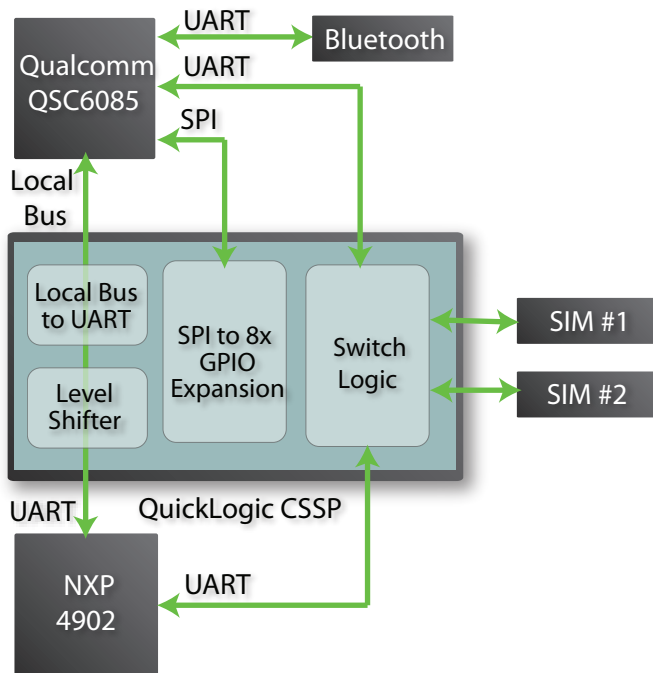

Figure 3. Low Bandwidth Implementation
- Indirect communication through a mailbox (Figure 3)
Figure 3 demonstrates how to bridge a Qualcomm QSC6085 processor with a NXP 4902 processor. As shown, the QSC6085 has used all its UARTs and cannot directly connect to the NXP processor. Utilizing the local bus on the QSC6085, a local bus-to-UART bridging function, along with a voltage level shifter, is implemented inside the CSSP to facilitate inter-processor communication. Furthermore, additional functions such as GPIO expansion, I²C, and SPI can be integrated.